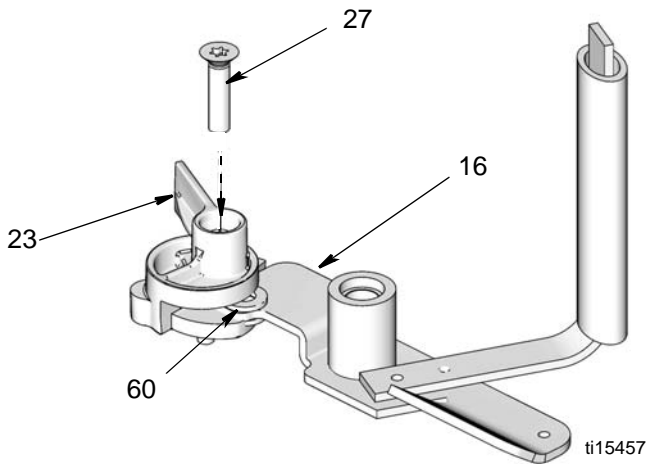

FIG. 13
a. Remove screw (27) to remove the low level paddle (23) from the stirring paddle (16). Discard paddle (23) washers (60) and screw (27) (FIG. 13).